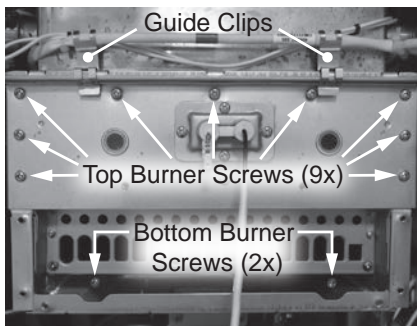

Figure 160 - Burner screws and guide clips
**54** Locate the overhear cutoff fuse (OHCF) above the burner assembly. Remove the two guide clips from the burner assembly routing the OHCF around the primary heat exchanger. Dispose of guide clips and OHCF properly. See Figure 160.
**55** Locate the (2x) bottom screws and (9x) top screws securing the burner assembly to the old primary heat exchanger as shown in Figure 160. Use a 12" magnetized Phillips screwdriver to remove screws. Place screws aside in a safe place for reinstallation.